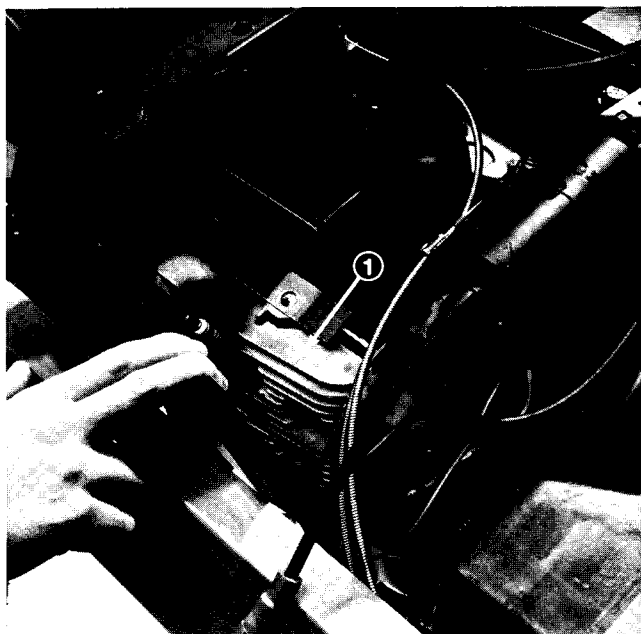

Figure 10
3. Pull the housing away from the engine and clean dirt, grass and chaff from the outside of the cylinder head and cylinder head fins (Fig. 10).